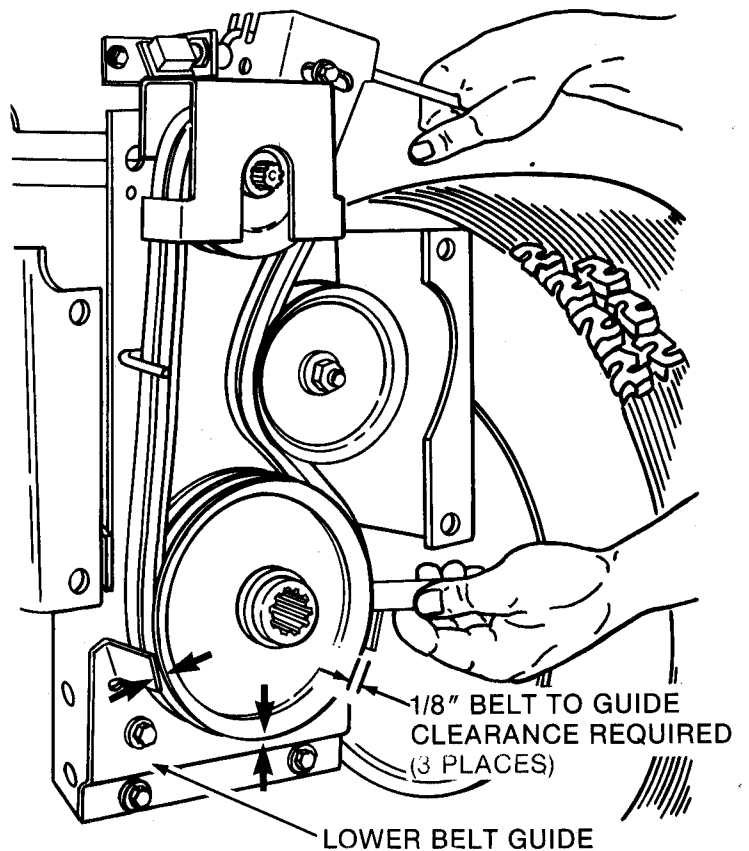

FIG. 7 - CHECK LOWER BELT CLEARANCE
Step 5: Install lower belt guide using two 3/8x3/4 flanged bolts and two 3/8 C flange nuts. Secure lower belt finger to bottom of draw bar mounting plate. **Note:** Guide fingers should clear belt by 1/8 inch when P.T.O. idler is engaged. Readjust guide if necessary(Figure 7).